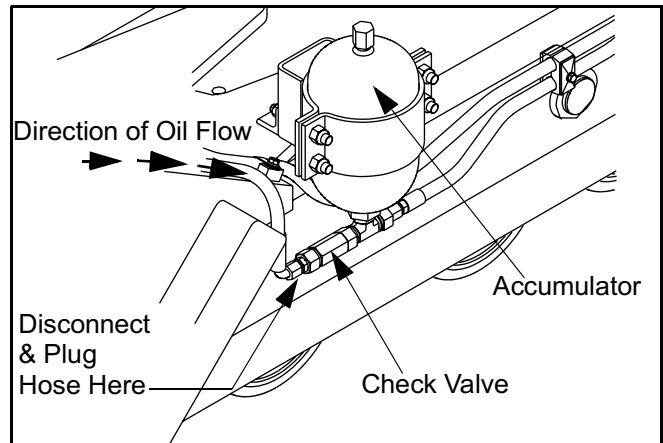

Figure 5 - 30 Track Tension Accumulator
- 1) Install pressure gauge (3000 psi) at test port marked BTM on the tension release valve (Figure 5 - 31).